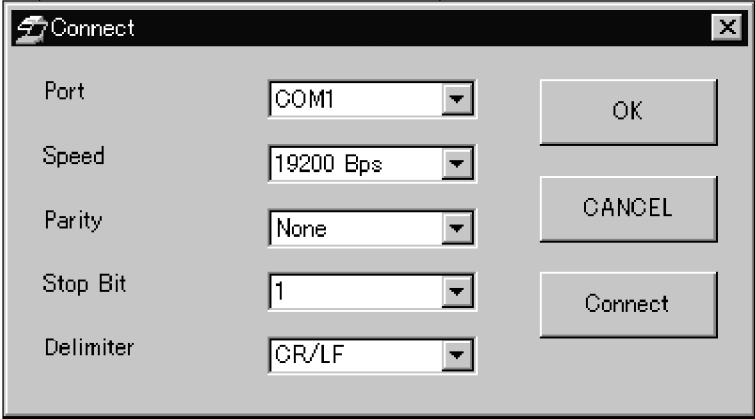

Fig. 1-5
3. Set the MM6-CAL22 power to "I" (ON). (See "Section1-5".)
4. Select the [Set] - [Set Communication Environment] in the menu bar in the [Main] Window. Then, the [Set Communication Environment] dialog box (Fig. 1-5) appears. Set every communication conditions corresponding to that of the MM6-CAL22 Dip Switch. (See "Section1-8" for further details.)